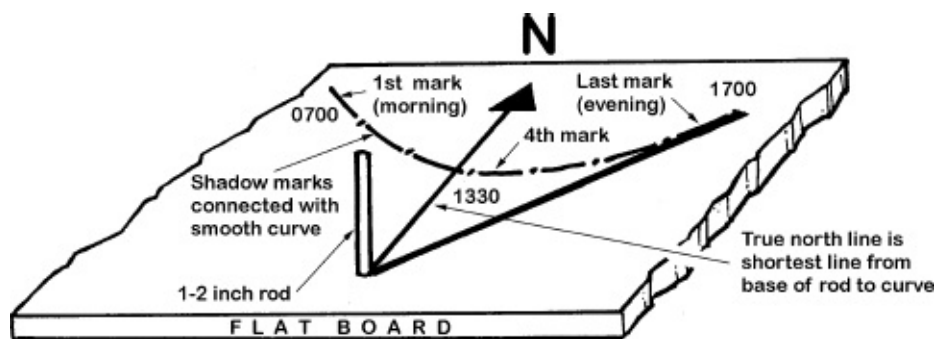

Figure 2-3. Pocket navigator
- (5) Using a pocket navigator (**Figure 2-3**)—